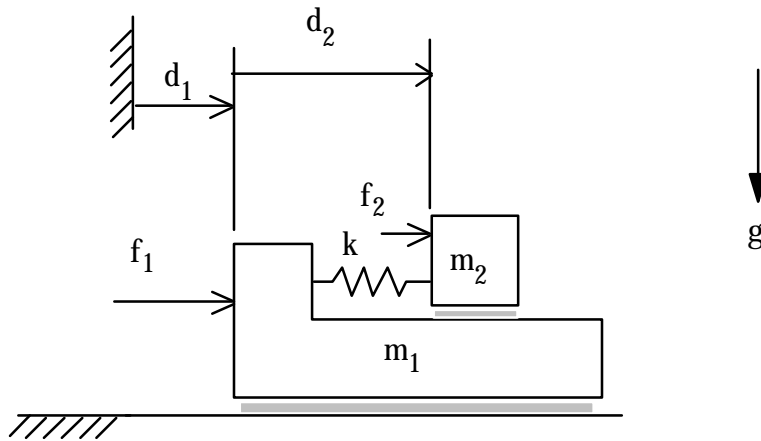
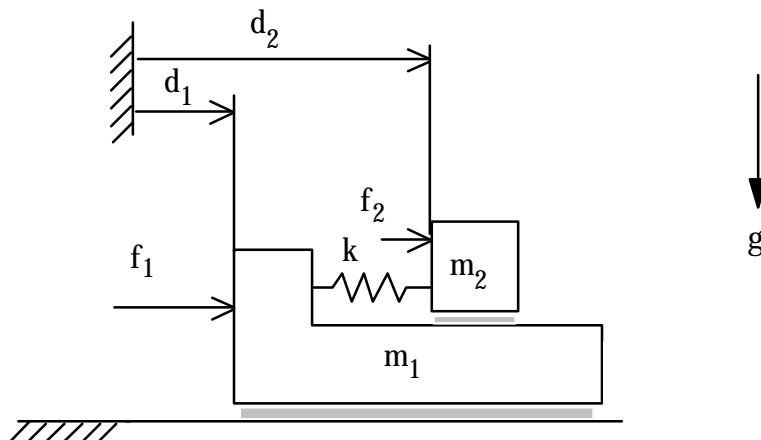

Figure 5
Figure 6
- Q.4 (a) For the system shown in Figure 5, m_1 and m_2 are the masses of blocks 1 and 2, k is the spring constant of the linear spring connecting the two blocks, d_1 and d_2 are the displacements as indicated, and f_1 and f_2 are external forces on blocks 1 and 2.
- (b) If the generalized coordinates, d_1 and d_2 , are chosen as shown in Figure 6 and all other parameters are the same as for the robot shown in Figure 5, derive the equations of motion for the system, and state the difference between the two resulting dynamic equations.